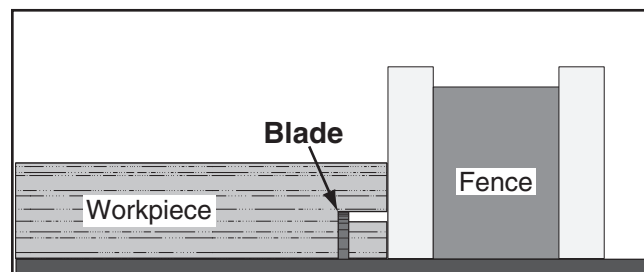

Figure 122. Second cut to create a rabbet.
6. Lay workpiece flat on table, as shown in **Figure 122**, adjust saw blade height to intersect with first cut, then perform second cut to complete rabbet.